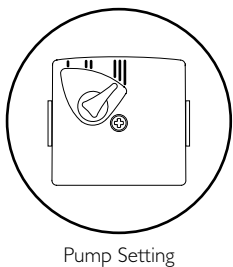

Fig. 88
3. A standard replacement Grundfos 15-60 head can now be fitted. Connect the pump wiring to the new head. **The pump speed must be set to 3 (Fig. 88).**
### 14.15 Pump - Complete (Fig. 88)